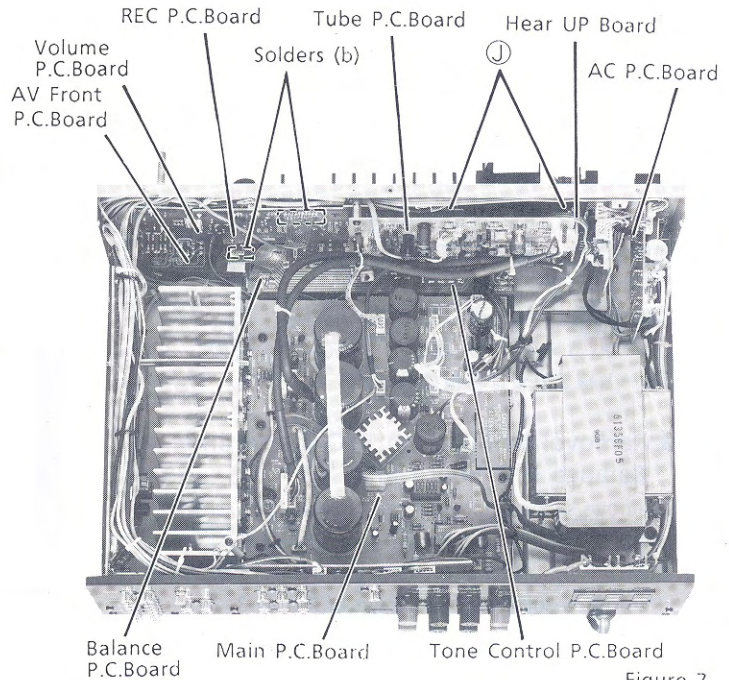

Figure 7
- Remove two screws marked "Ⓧ" as shown in Figure 7.
- Remove two solders (b) as shown in Figure 7.